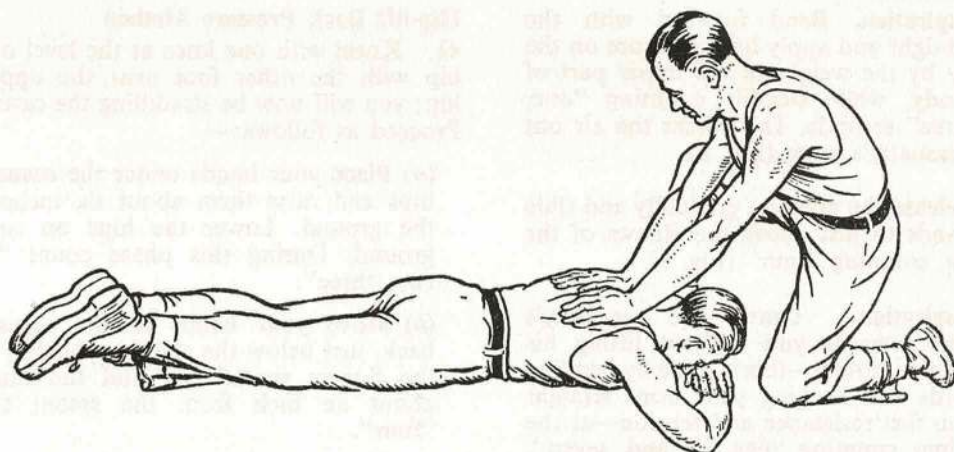

Fig. 5. FIRST MOVEMENT
34. The first movement is to place both hands on the casualty's shoulder blades, with the thumbs touching the spine and the fingers pointing to the casualty's feet (Fig. 5); then proceed as in paragraphs 35 to 44.